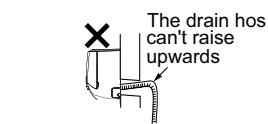

Fig.25
- (1) The through-wall height of drain hose should not be higher than the outlet pipe hole of indoor unit. (As show in Fig.25)